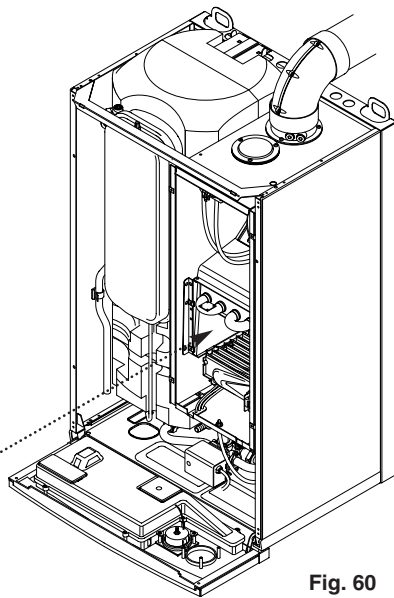

Fig. 60
11.7 Insulation (Figs. 60 & 61)